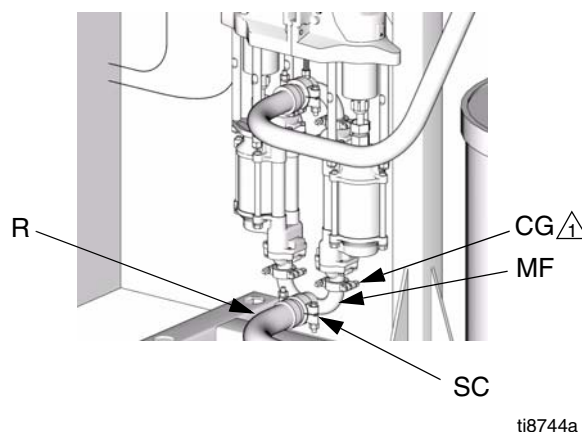

FIG. 4. Fluid Connection (Pump Inlet Shown)
See FIG. 4. The fluid manifolds are secured to the pumps with 1-1/2 in. clamps and sanitary gaskets (CG). Manifolds can be oriented in either direction. Connect the fluid line (R) to the manifold (MF) using 2 in. clamps and sanitary gaskets (SC). Optional fittings are available. See TABLE 3.